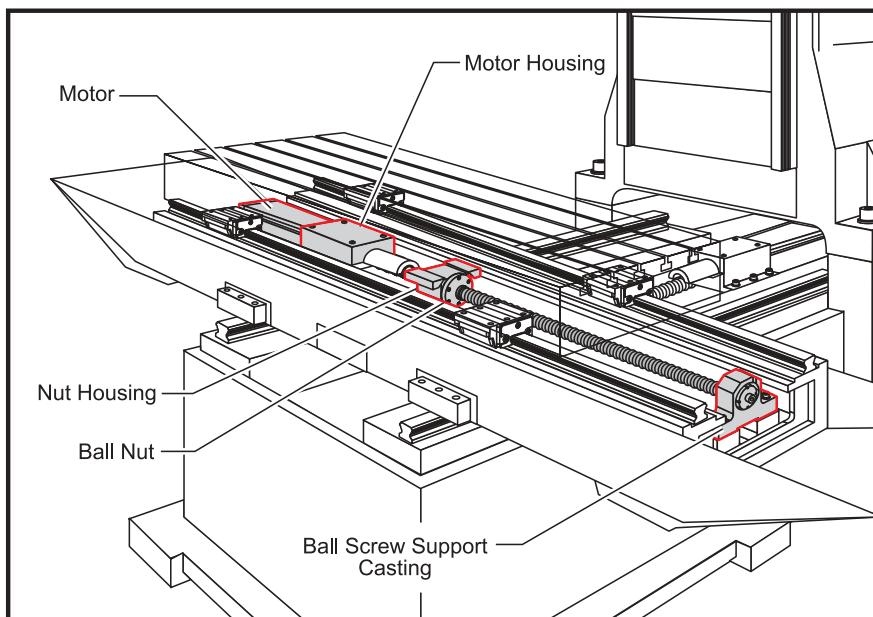

Figure 3.9-3 Install ball screw from right side.
3. Insert the ball screw through the nut housing and motor housing (See Fig. 3.9-3), taking care not to make contact with the screw threads, which will cause possible damage.